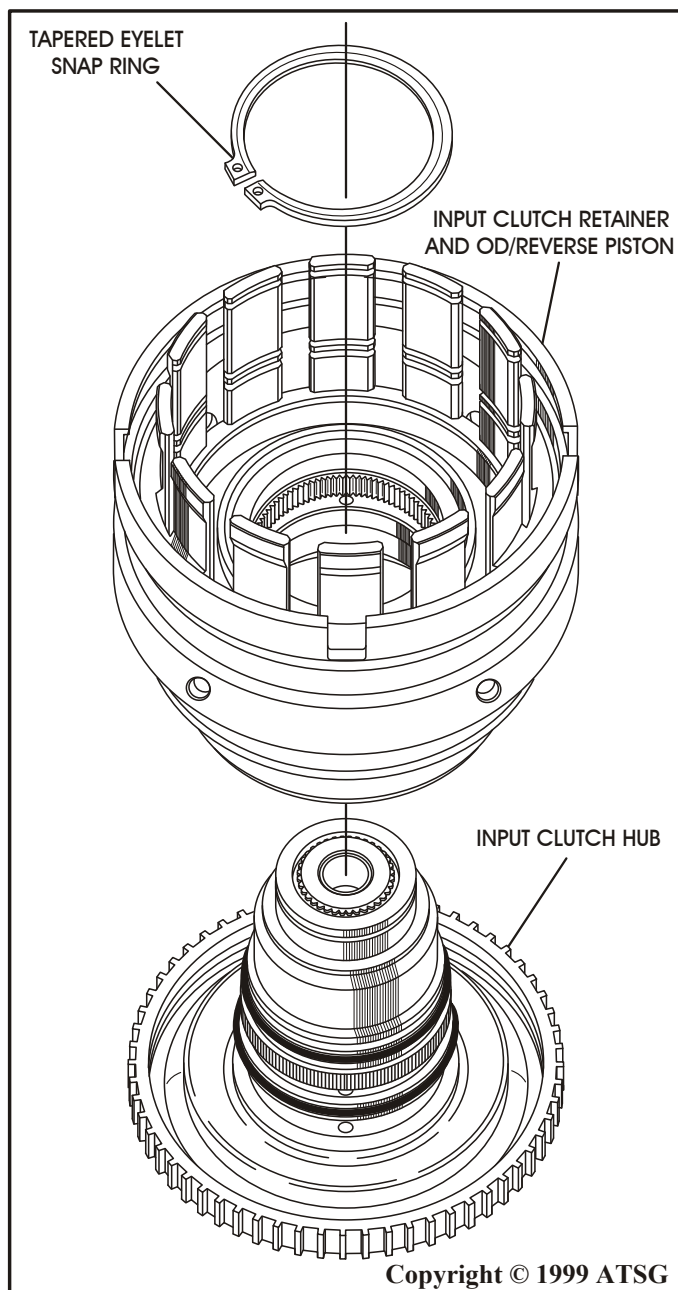

Figure 76
15. Install input clutch retainer and OD/Reverse piston assembly onto the input clutch hub, as shown in Figure 76.
16. Install the input clutch retainer *tapered* snap ring, with the *tapered side facing up*, into the groove in the input clutch hub as shown in Figure 76.